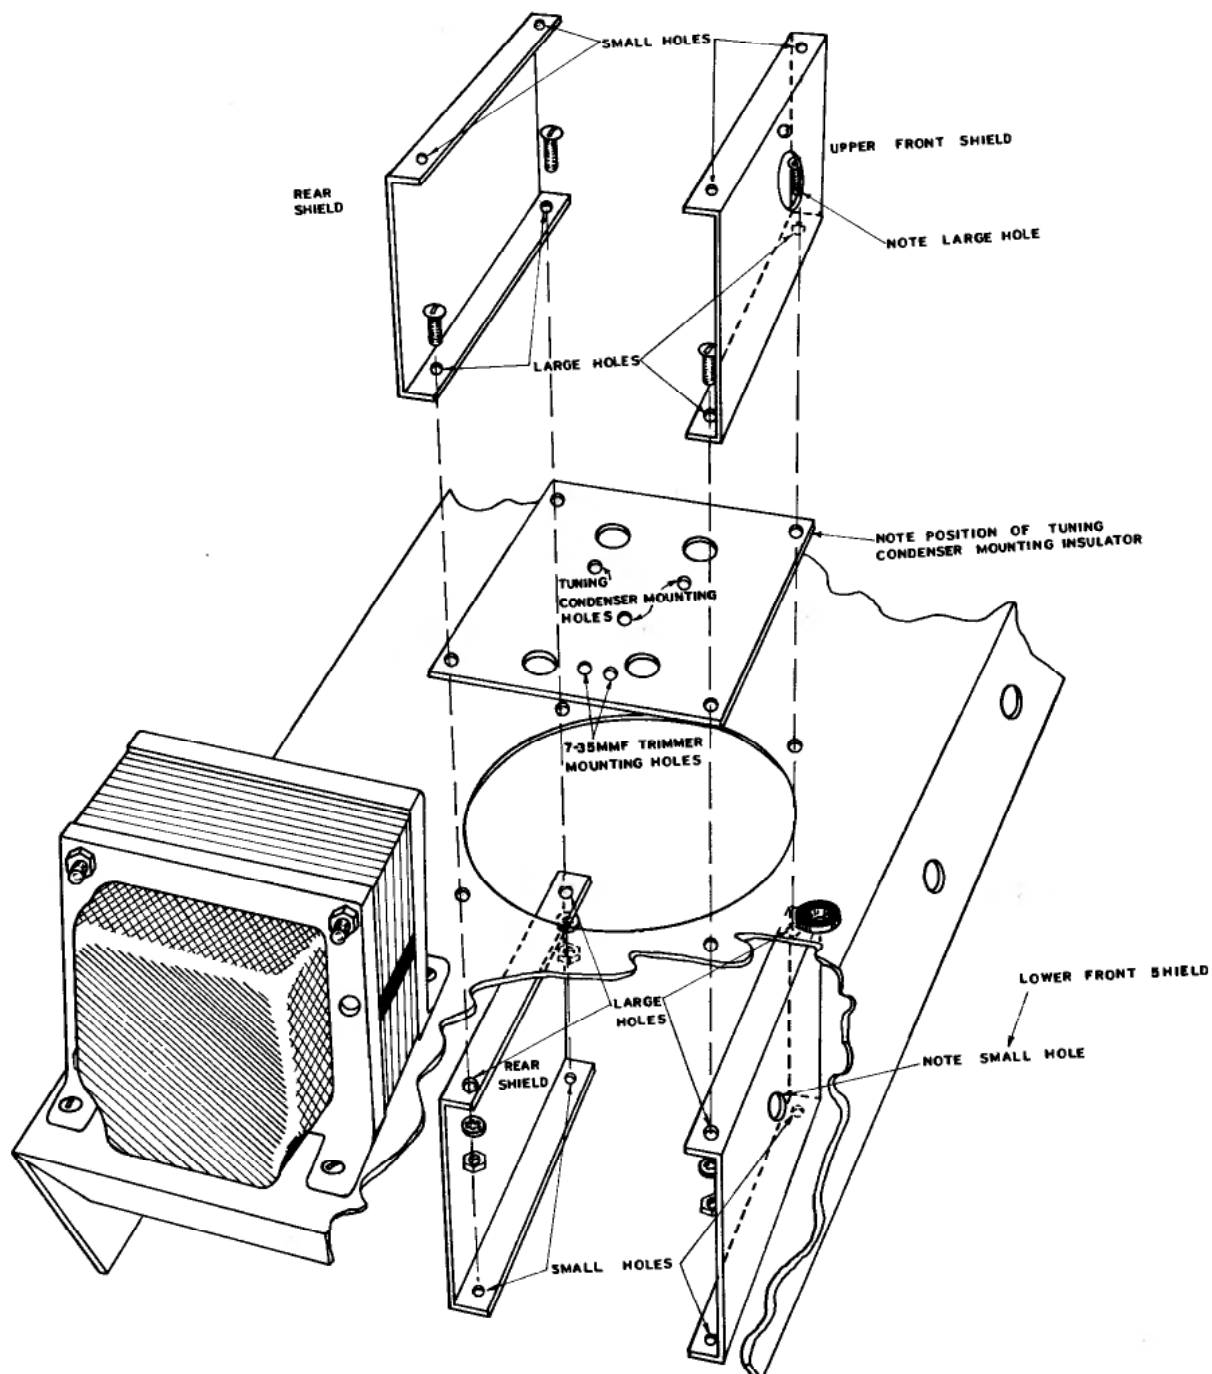

Figure 1
- () Place the tuning capacitor mounting insulator over the large hole on top of the chassis as shown in Figure 1 on Page 11. Orient the large hole nearest the edge of the insulator to the corner toward the power transformer. Using 6-32 hardware, install the insulator, together with the upper and lower front shields, as shown. (Do not install the rear shields at this time.)
- () Using bare wire, connect the five dummy (not connected to the rotor) lugs, B1, B2, B3, B4 and B5 together (NS).
- () Connect the $8K \pm 1\%$ resistor between A2 (NS) and B2 (NS).
- () Mount the tuning gang on the insulator using three 3/16" 6-32 screws in the holes marked for that purpose in Figure 1. Include solder lugs SL-1 and SL-2 under the two screws toward the chassis front, oriented as shown in Pictorial 1 on Page 9.
- () Connect a bare wire from SL-1 (S-1) to T-1 (NS).